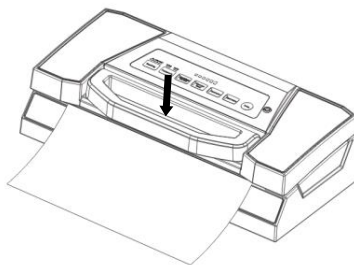

Fig.6
7. Close the top cover and press tightly till you hear it click in place on both sides— **Fig.6**